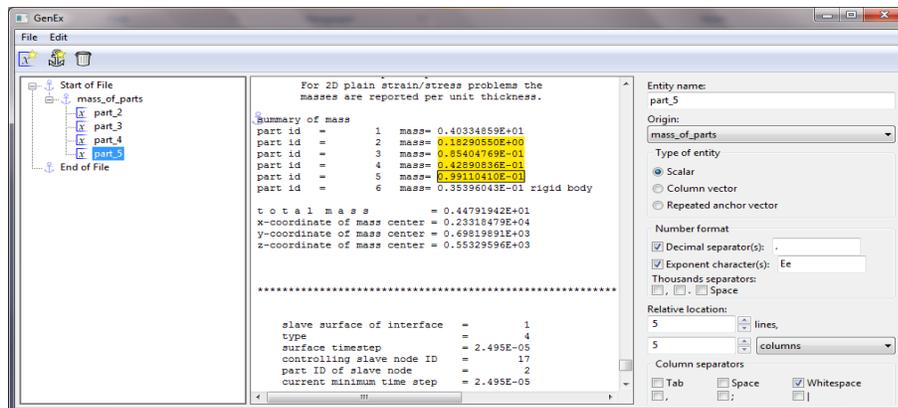

Figure 4: Multiple entities of an anchor in GenEx
11. Similarly, more entities can be created for other parts under the same anchor with only difference in their respective relative locations, figure 4.